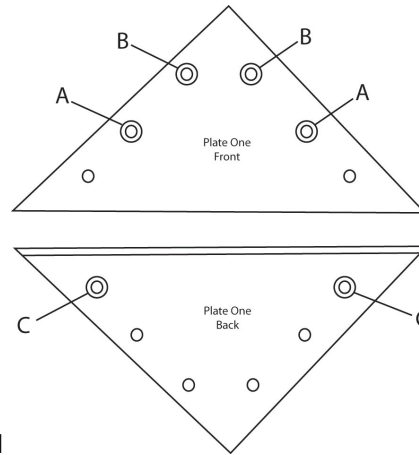

FIG. 1
2. As can be observed from FIGS. 1 and 2, each triangular plate comprises three sets of mounting holes, with each set being utilized in a particular manner to achieve a plate configuration being most suited to operate on a planar or an angular-orientated surface.
1. The first set of mounting holes is designated as A in plate 1 (front) and A' in plate 2 (front) in FIGS. 1 & 2, respectively, and are used to position the triangular plates in a planar manner. When orientating the triangular plates in this manner, the first set of mounting holes will reveal a beveled portion facing outward to accept an equally configured screw, while the beveled leading edge of each plate should overlap with one another to permit a uniform, planar surface.
1. The second set of mounting holes is designated as B in plate 1 (front) and B' in plate 2 (back) in FIGS. 1 & 2, respectively, and are used to position the triangular plates in an angular manner most suited to addressing an interior corner. When orientating the triangular plates for an interior corner application, the second set of mounting holes will reveal a beveled portion facing outward to accept an equally configured screw, while the beveled edge of each plate should abut up against one another to reveal an outward angular configuration.
1. The third set of mounting holes is designated as C in plate 1 (back) and C' in plate 2 (front) in FIGS. 1 & 2, respectively, and are used to position the triangular plates in an angular manner most suited to addressing an exterior corner. When orientating the triangular plates for an exterior corner application, the third set of mounting holes will reveal a beveled portion facing outward to accept an equally configured screw, while the beveled edge of each plate should abut up against one another to reveal an inward angular configuration.